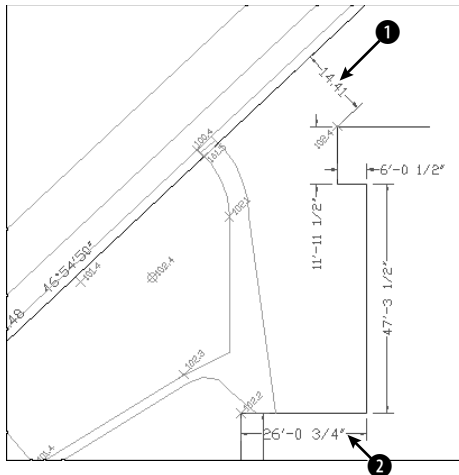

Figure 14-33: A dimensioned civil engineering drawing.
2. Save the file as `ab14-08.dwg` in your `AutoCAD Bible` folder. This is a civil engineering drawing whose dimensions need some editing (see Figure 14-33). If the Dimension toolbar isn't visible, right-click any toolbar and check `Dimension`.
3.  The dimension at ❶ in Figure 14-33 is not in the proper units because the text was entered explicitly as 14.41. To correct this error, choose `Dimension Edit` from the Dimension toolbar. At the `Enter type of dimension editing [Home/New/Rotate/Oblique] <Home>:` prompt, right-click and choose `New`. The `In-Place Text Editor` opens, showing zeroes. Because you want the original text, click `OK`. At the `Select objects:` prompt, pick ❶. Press `Enter` to end object selection. (You could correct several dimensions this way.) This action corrects the dimension, automatically creating the text in the current units.
4.  The dimension text at ❷ in Figure 14-33 is too close to the dimension line of the vertical dimension that crosses it. Choose `Dimension Text Edit` from the Dimension toolbar. At the `Select dimension:` prompt, pick ❷. At the `Specify new location for dimension text or [Left/Right/Center/Home/Angle]:` prompt, right-click and choose `Right`. This action moves the text to the right.